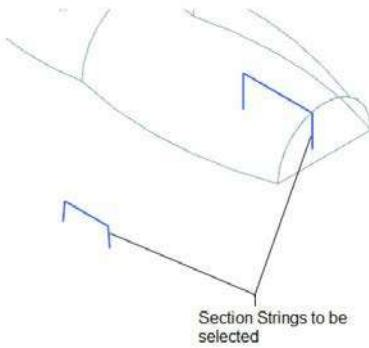

Figure 11-97 Sections to be selected
7. Select all elements from the first section string, refer to Figure 11-97, and then press the middle mouse button; you are prompted to select a section again.